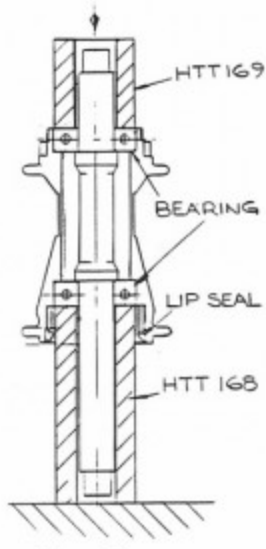

FIG 3
Assembly Procedure: Sit hub on non-drive side flange. Press or drive in bearing (item 7). Use tool no. HTT169. Carefully fit new seal (item 9). Use a bush which covers the full diameter of the seal to press it home. Slide spindle long end through hub and bearing (item 7). Sit hub assembly drive side down on tool HTT168 (See fig 3). Press or drive in bearing (item 3) using tool HTT169. Assemble rotor body to hub as described in Maintenance Instructions.